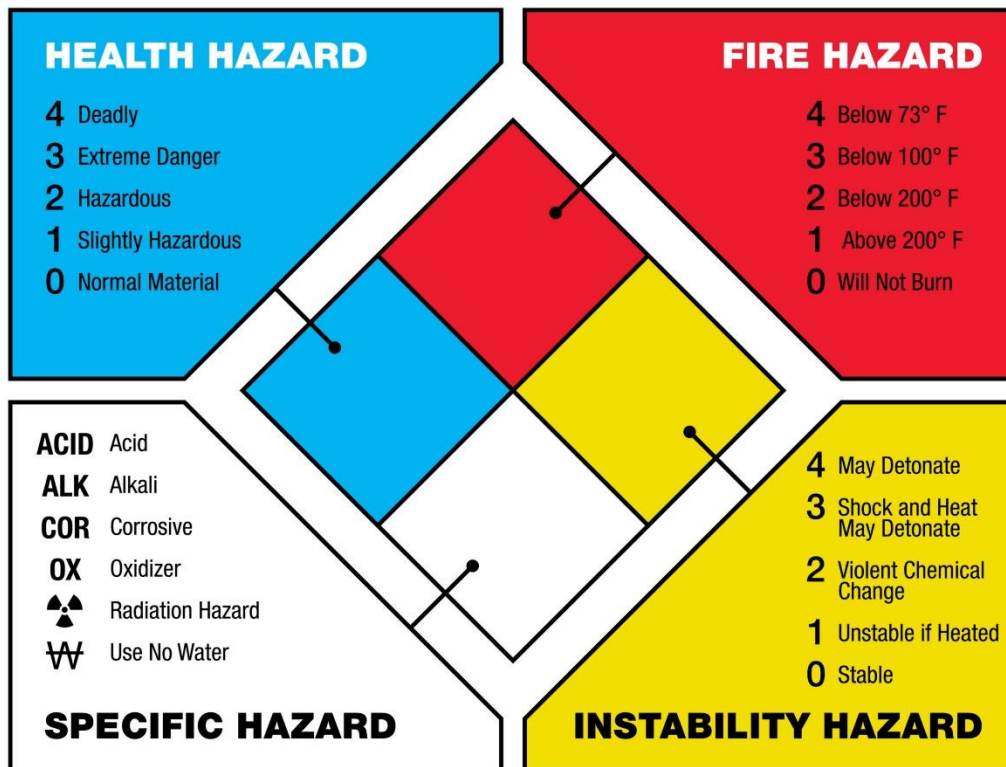

Figure 2: NFPA Fire Rating Label with options listed for each of the four quadrants. This label is commonly called a Fire Diamond
- Chemical hazard warning signs shall be placed on tanks. See Figure 2.